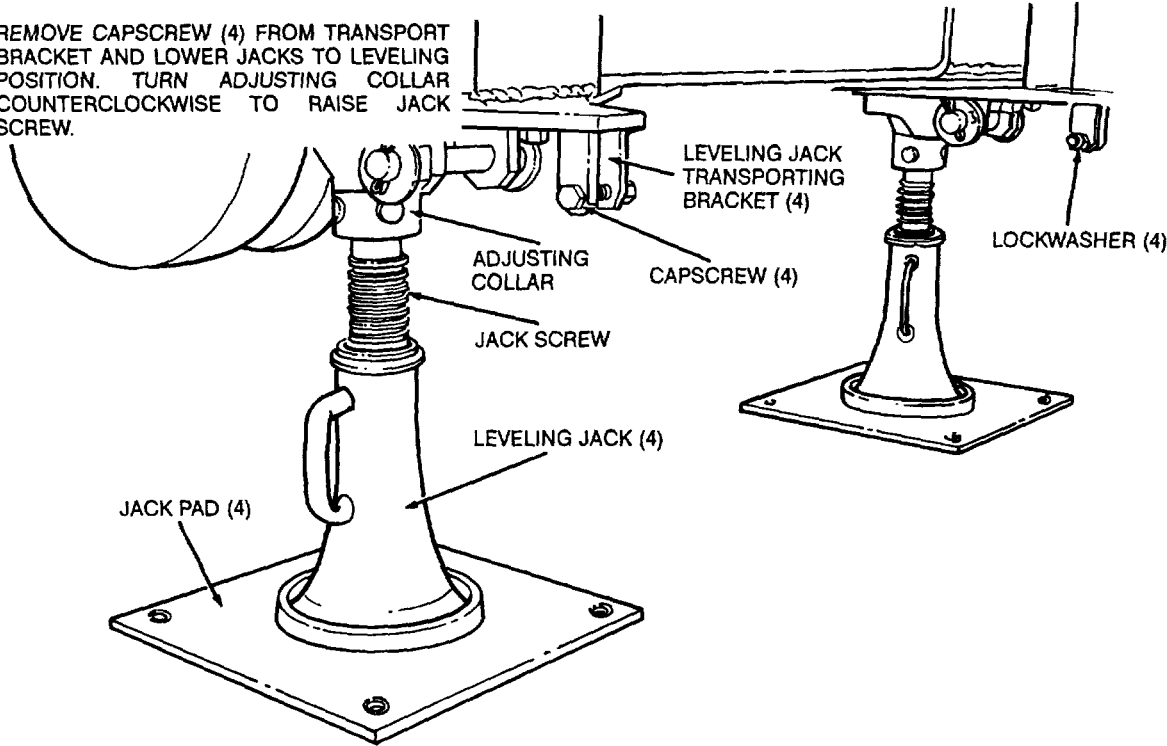

Figure 4. Leveling jacks, installed view.
c. The jaw crusher is equipped with four mounted, screw-type leveling jacks. Position the leveling jacks in the jack pads (fig. 4). If the ground is soft or provides a poor bearing surface, place timbers or other suitable supports under the jack pads.
g. Raise and secure the leveling jacks in transport position in reverse of the instructions on figure 4, and stow jack pads in the toolbox.